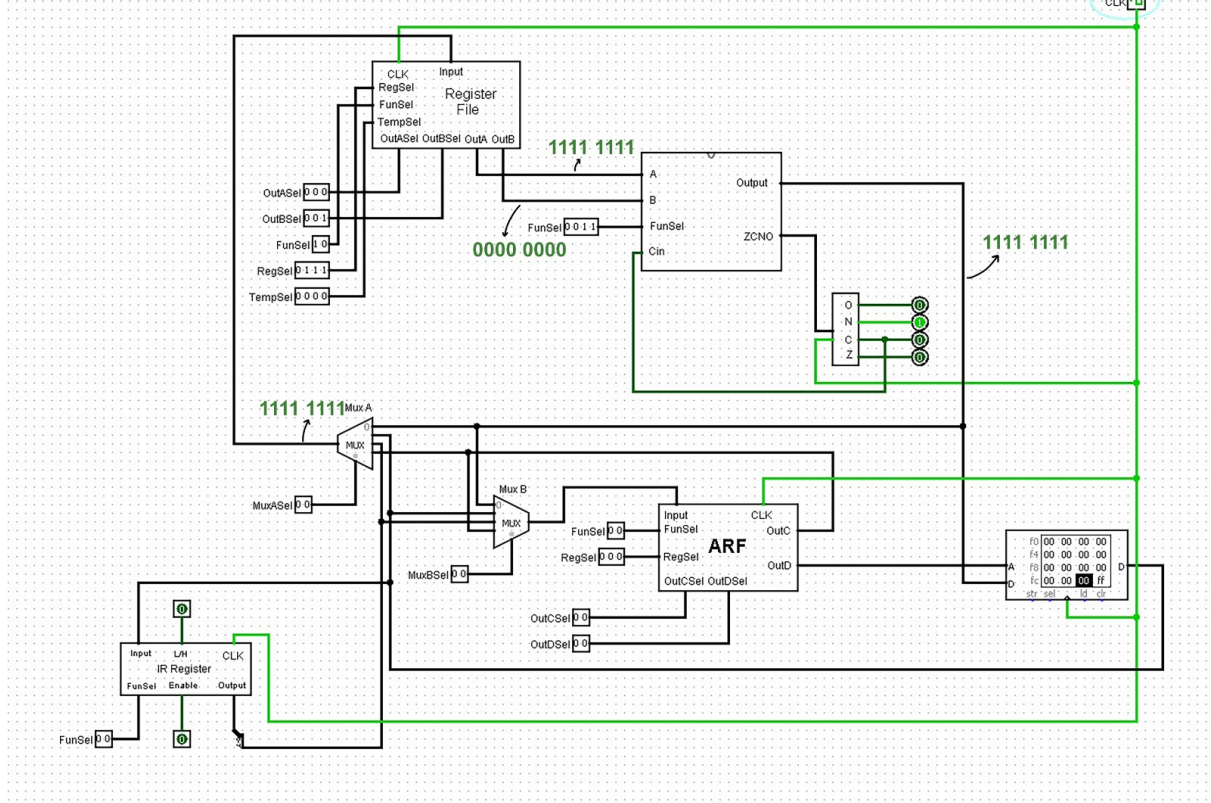

Figure 17: Test Case 1
- **Shift Unit:** This is a library that we designed to minimize the circuit in Figure 12. The circuit of it is shown in Figure 17. We used 3 8:1 multiplexers to select operation, carry, and overflow. Their select inputs are the same and first 3 bits of FunSel. We used splitters to split bits and then shift them.